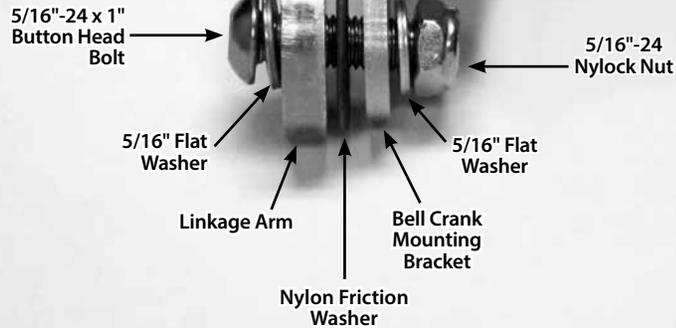
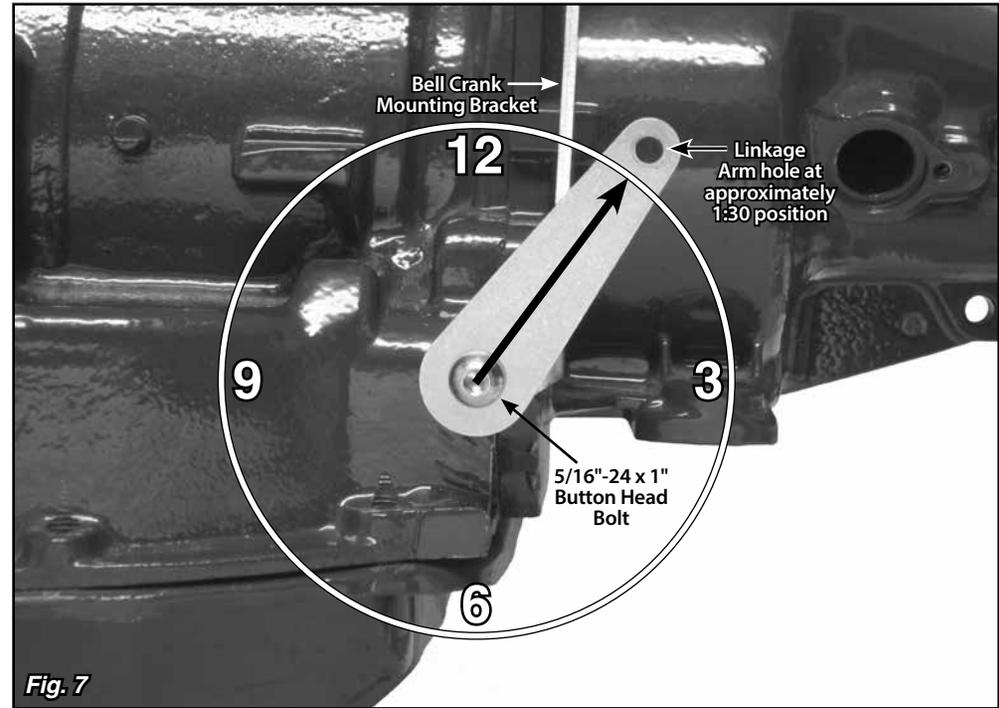

Fig. 6
Fig. 7
**Step 6:** Attach the linkage arm and nylon friction washer to the bell crank mounting bracket as shown in Fig. 6, using the 5/16"-24 x 1" button head bolt, flat washers, and nylock nut. Make sure the nylon friction washer is in between the linkage arm and the mounting bracket. Position the linkage arm at approximately the same angle as the trans arm on the selector shaft (the 1:30 position), and tighten the nylock nut. Fig. 6 and Fig. 7